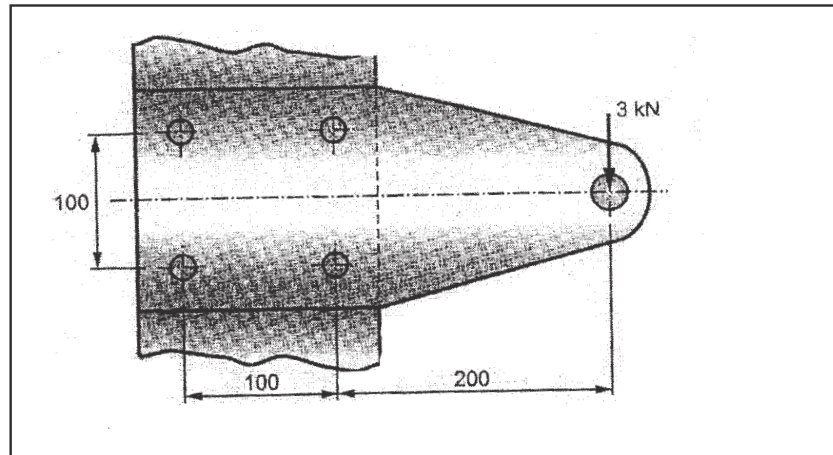

Fig. 1
- b)** A steel plate subjected to a force of 3 kN and fixed to a vertical channel by using four identical bolts as shown in figure 1. The bolts are made of plain carbon steel ( $S_{yt} = 380 \text{ N/mm}^2$ ). If factor safety is 2, find diameter of bolts. [12]